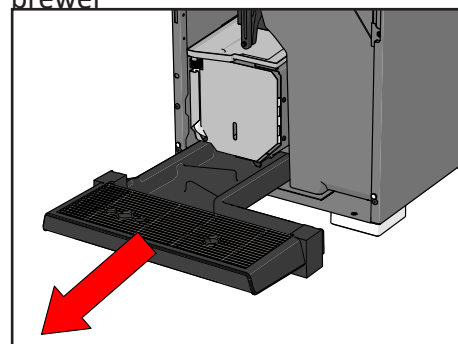

Figure 73. Remove drip tray
7. Remove the drip tray (see Figure 73).